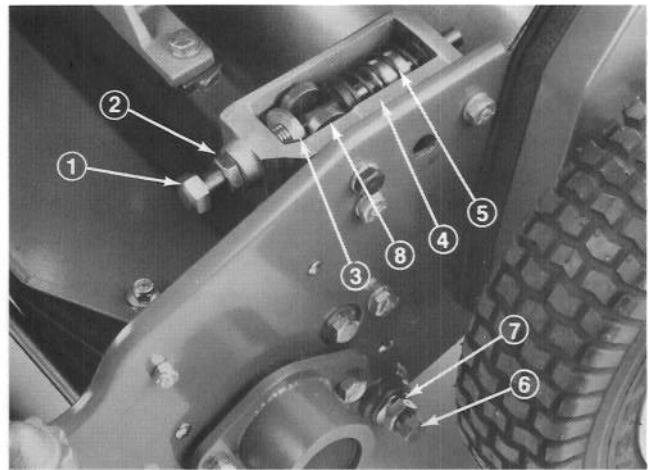

Figure 44
2. Loosen jam nut securing each bed bar adjusting screw to each frame adjuster (Fig. 44).
3. Loosen each bed bar adjusting screw until thrust washer bottoms out on frame adjuster (Fig. 44).
4. Using a spring compressor or clamp, compress springs on bed bar adjusting screws to free bed bar from frame adjusters (Fig. 44).
5. On each side of machine, loosen the jam nut securing bed bar bolt (Fig. 44)
6. Remove each bed bar bolt allowing bed bar to be pulled downward and removed from machine (See figure). Account for (2) thrust washers on each end of bed bar bolt.